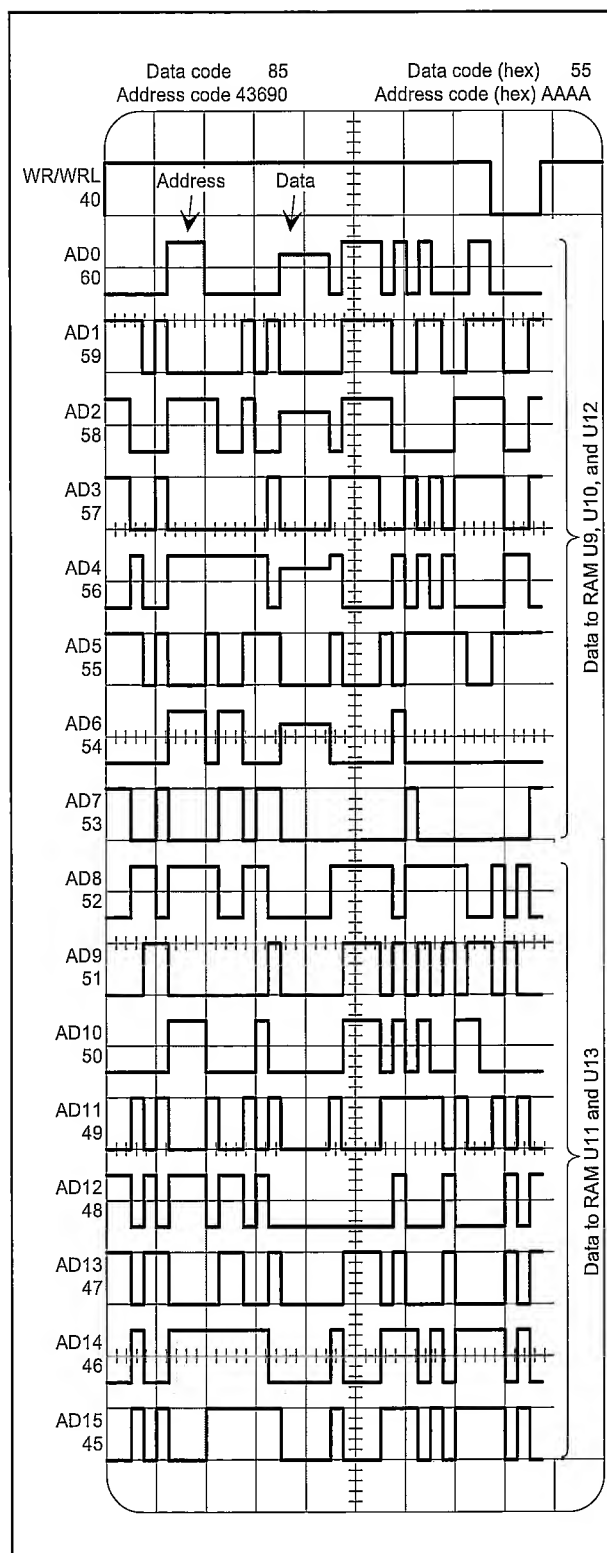

Figure 5-13 Example of AD-bus line diagram.
- Examine the DATA bus lines AD0-AD15 (U6 pin 45-60) with the probe connected to the A-channel, and compare the signal to with Figure 5-13.